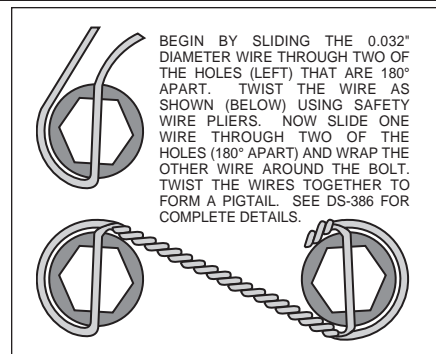
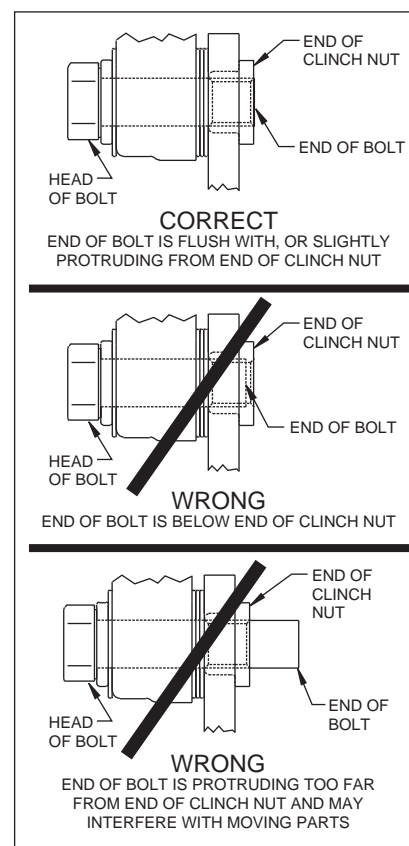

Figure 4. Safety Wire Diagram
Figure 5. Clinch Nut Engagement Diagram
- With the slot pointing upward and the mounting ears pointing towards the rear of the vehicle, install the caliper mounting bracket (1) to the housing flange using the stock Original Equipment Manufacturer (OEM) bolts and nuts. Stock OEM hex nuts that retain the bracket (1) should be on the wheel side of the bracket. Apply red *Loctite*® 271 to the stock OEM bolt threads and torque to OEM specifications. **NOTE:** Some brackets act as the bearing retainers, while others help locate the bearing in the axle housing flange. If the stock bearing plates are still on the axle, the caliper mounting brackets (1) should be located between the axle housing flange and the bearing retainer plate. Make sure the heads of the caliper mounting bracket insert nuts are FACING OUTWARD TOWARDS THE WHEEL
- The rotor (3) has two sides. A flat side and an inset side. Bolt hat (2) to flat side of rotor (3) using bolts (5). Using an alternating sequence, apply red *Loctite*® 271 to the threads and torque bolts to 25 ft-lb. For an added measure of security, the bolts may be safety wired using standard 0.032 inch diameter stainless steel safety wire as shown in Figure 4. Please refer to Wilwood's data sheet DS-386 (available at www.wilwood.com/Pdf/DataSheets/ds386.pdf) for complete safety wire installation instructions.
- Align the correct hole pattern in the hat (2) with the stud pattern on the axle flange. **NOTE:** Some OEM and after market axles come with stud sizes larger than 0.50" diameter. Verify stud size and have a qualified machine shop drill the hats to the correct size. Slide the hat/rotor assembly (2 and 3) over the wheel studs and against the axle flange face.
- NOTE:** Please reference the caution statement at the beginning of the assembly instructions. Mount the caliper (6) over the rotor (3) and onto the caliper mounting bracket (1) using washers (7) and mounting bolts (8). View the rotor through the top opening of the caliper. The rotor should be aligned in the center of the caliper. If not, adjust the caliper by using 0.032 inch shims (9) by placing them between the caliper mounting bracket (1) and the caliper (6). Add as many shim washers (7) as necessary to achieve the correct alignment. **NOTE:** The end of the bolt must be flush with or slightly protruding from the head of the clinch nut. See Figure 5. Place spare shims (7) between washer and caliper mounting ear to achieve the proper mounting fastener configuration. Always use the same amount of shims on both the top and bottom caliper mounting bolts (8). Apply red *Loctite*® 271 to the mounting bolt threads (8), torque to 40 ft-lb. Caliper mount bolts may be safety wired for additional security.
- Position the Wilwood disc brake pads (10) into the caliper (6) and fasten with cotter pin (4). Steel backing plate side of brake pad should face the caliper pistons.